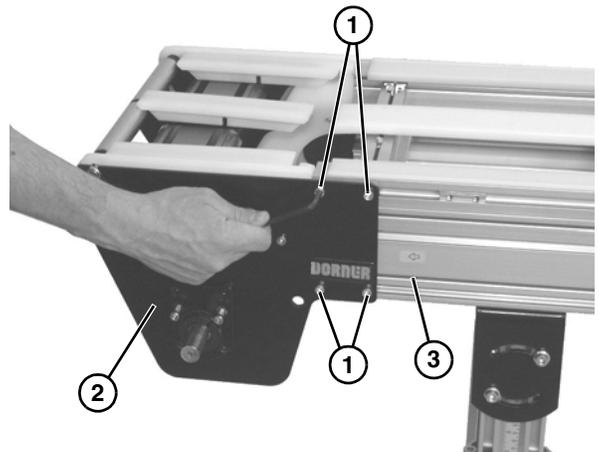

Figure 33
4. Loosen the four socket head screws (**Figure 33, item 1**). Repeat on opposite side.
5. Remove the drive tail assembly (**Figure 33, item 2**) from the frame (**Figure 33, item 3**).